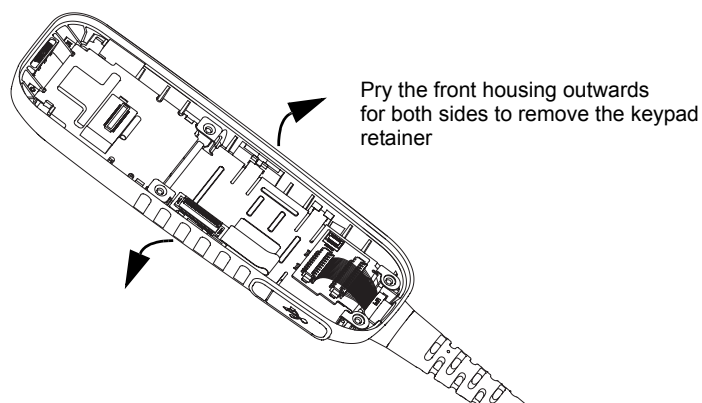

Figure 6-33 Keypad Retainer Removal
17. Remove the keypad retainer by stretching the Handset front housing outwards as shown in Figure 6-33.